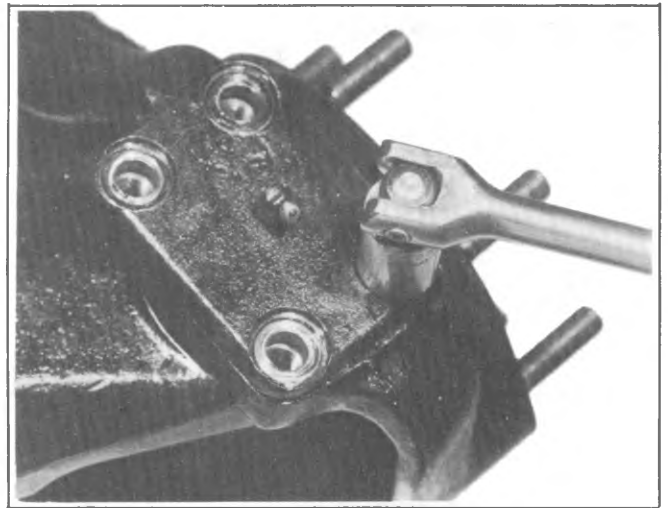

Fig. 3C-21K--Removing Lower Bearing Cap
1. Remove the hub and spindle as outlined earlier. If necessary, tap lightly with a rawhide hammer to free it from the knuckle. Check bronze spacer located between axle shaft joint assembly and bearing. If wear is evident, replace with a new one. See Figure 3C-18K.
nuts alternately as compression spring will force cap up. Refer to Figure 3C-19K.
3. Remove cap, compression spring, and gasket, as shown in Figure 3C-20K. Discard gasket, replace with new one at time of assembly.